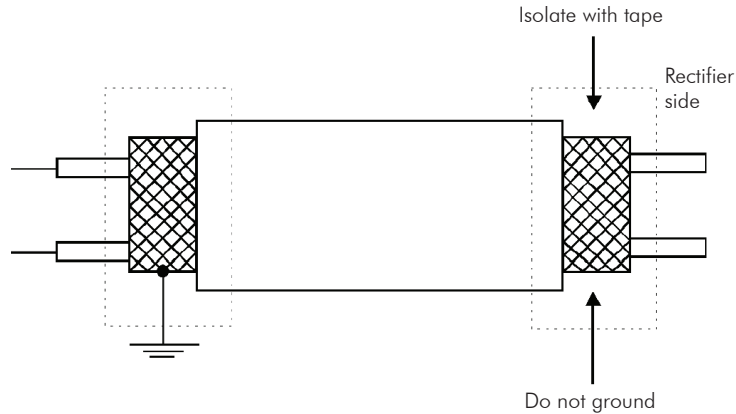

Figure 3.21 - Cable shield connection
- ☑ Use shielded cables for the 24 Vdc power supply connections of the CIR11 board if necessary. The proper cable shield connection is shown in figure 3.21.